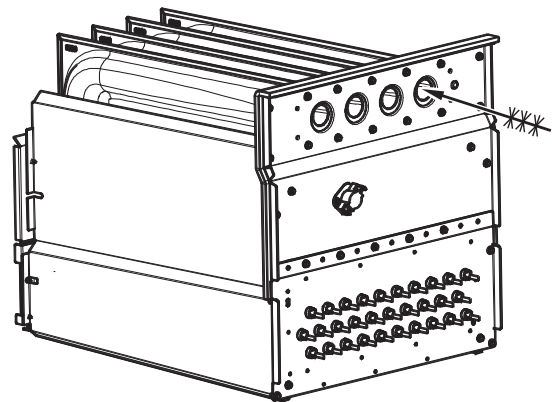

Fig. 68 – Cleaning Heat Exchanger Cell
- Clean heat exchanger openings with a vacuum and a soft brush. See Fig. 68.